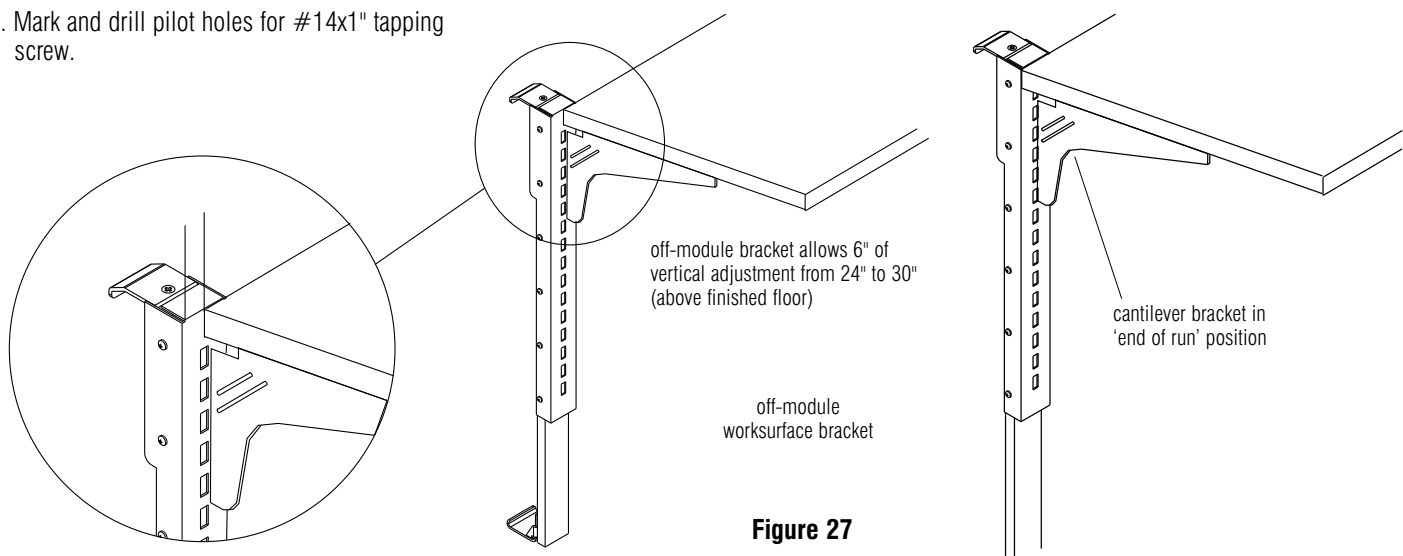

Figure 27
5. The position of the cantilever bracket (under the worksurface) when used to support two worksurfaces 'shared' is 1" different than when used as an 'end of run'. **Figure 27.**
8. Position the worksurface on the cantilever brackets in either the 'shared' or 'end of run' position. **Figure 27.**